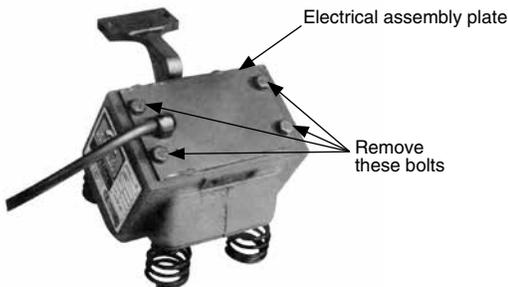

FIGURE 7
The following procedure should be followed in removing and replacing the electrical assembly (See Figures 7 & 8).
1. Remove the bolts securing the lower end of the tuning spring and those securing the tray to the front section of the tiebar. Remove the tray, the rear section of the tiebar and the tuning springs in one piece. (See Figure 7).